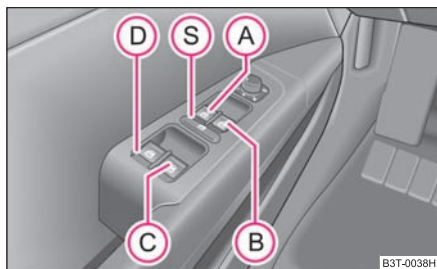

Fig. 36 Buttons on the driver's door
The switches for the individual windows are located in the armrest of the driver's door → fig. 36, front passenger door and in the rear doors → page 48, fig. 37
You can deactivate the switches for power windows at rear doors by pressing the safety pushbutton Ⓢ → fig. 36. The buttons for power windows at rear doors are activated again by pressing the safety pushbutton Ⓢ again.
- It is recommended to deactivate the electrically operated power windows in the rear doors (safety pushbutton) Ⓢ ⇒ fig. 36 when children are being transported on the rear seats. ▶